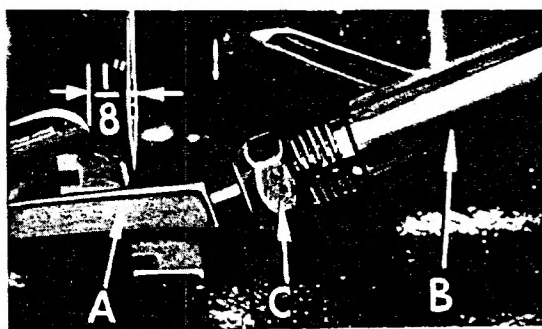

Fig. 5
At this point, insert lower looper (A, Fig. 5) into bar (B). With lower looper at left end of its stroke, set looper point $1/8$ inch from center of needle (Fig. 5), using looper gauge No. 21225- $1/8$. Do not have lower looper deflecting needle. Tighten nut (C).